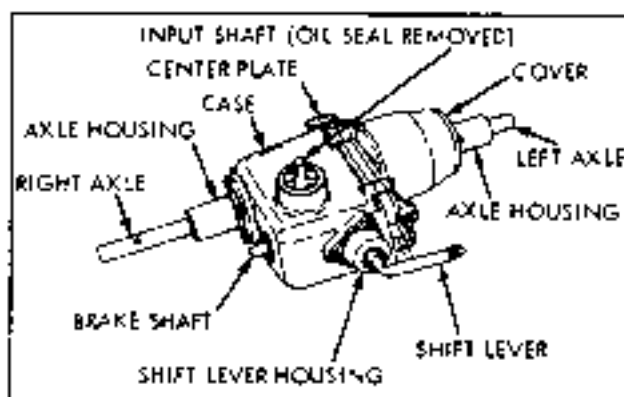

Figure 15
1. Clean the outside surface of the transaxle, away from the area where disassembly will take place. (Position shift lever in neutral position to help disassembly. See Figure 15. Remove screws (3) holding shift lever and shift lever housing. Remove shift lever housing. Drain oil through the shift lever opening (for service of shift lever assembly, refer to Page 18). Remove all keys from keyways, remove all burrs and dirt from shafts. On hardened shafts, use a stone to remove burrs. All seals should be replaced whenever a shaft is pulled through a seal. Always use a new gasket whenever the gasket surfaces have been separated.